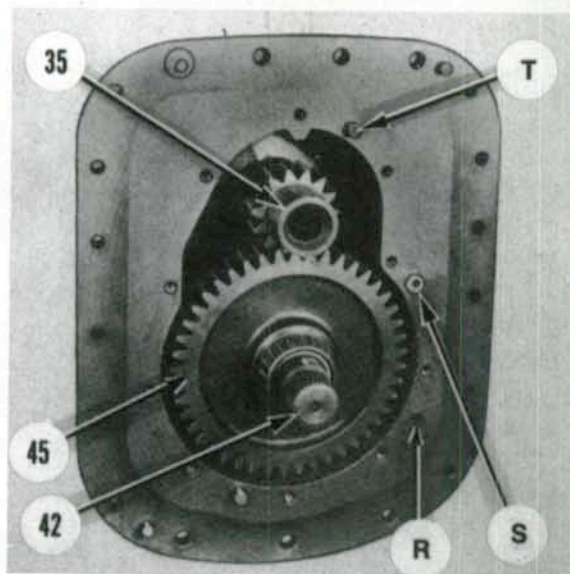

Fig. 207—Secondary countershaft, output shaft and gear are removed from rear of transmission.
Pull output shaft (42—Fig. 207) with gear (45) out rear of transmission. Use a press or puller to remove gear and rear bearing cone from shaft. Remove front bearing cone if worn or damaged.